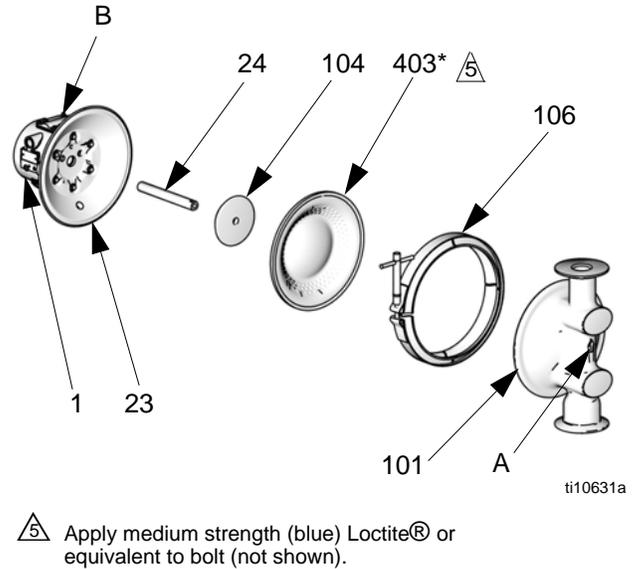

FIG. 13
1. Install the shaft u-cup packings (402) so the lips face **out** of the housing (1). Lubricate the packings. See FIG. 13.
2. Assemble the air side plate (104) onto the diaphragm (403). The wide, radiused side of the plate must face the diaphragm. Apply medium-strength (blue) Loctite® or equivalent to the threads of the diaphragm assembly. Screw the assembly into the shaft (24) hand tight.
3. Grease the length and ends of the diaphragm shaft (24). Insert the shaft/diaphragm assembly into one side of the pump. Assemble the fluid cover (101) and clamp (106) so the arrow (A) on the cover faces the same direction as the air valve (B). Securely tighten the clamp.
5. Supply the pump with low pressure air (less than 7 psi [.05 MPa, 0.5 bar]). The diaphragm will very slowly pull onto the air cover (23). Find the pressure that keeps the diaphragm close enough to clamp, but does not let it contact the pilot pin.